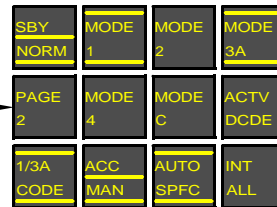

Figure 8.76 - Interrogate All
- Perform an interrogation on all tracks in the coverage area (Figure 8.76)